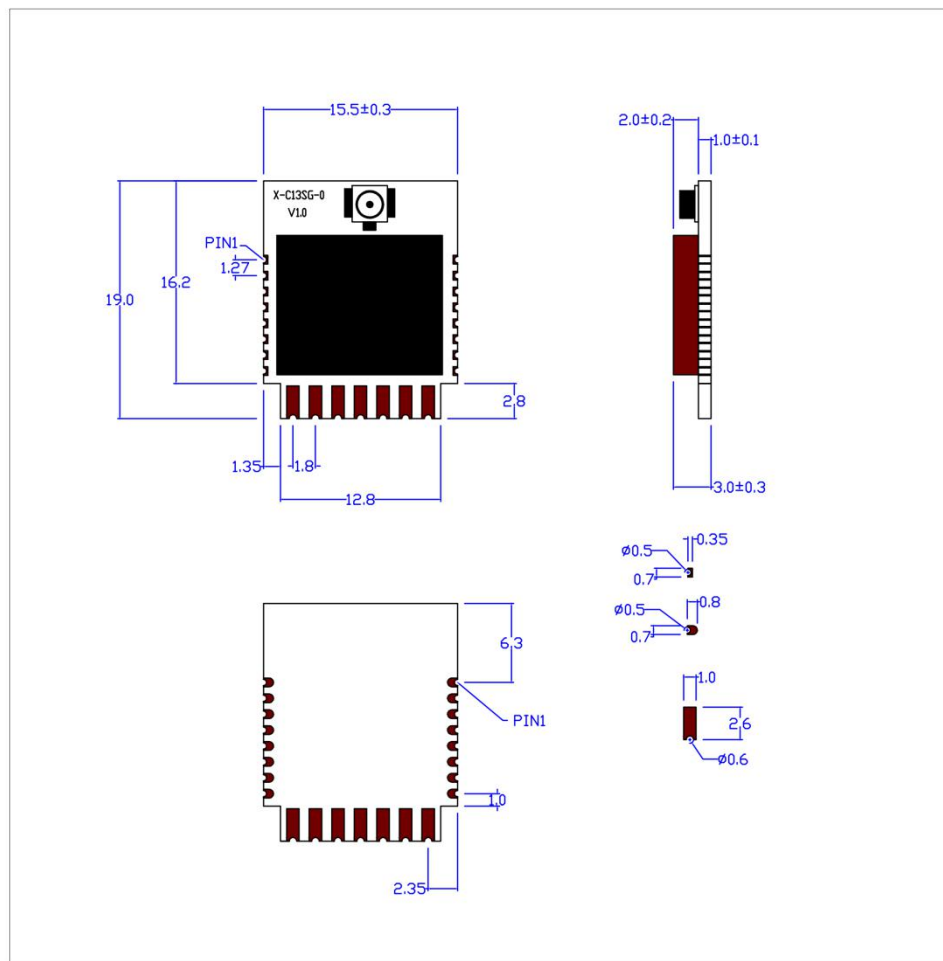

Figure 3. X-C13SG-0 Physical Dimensions
- Average (AP): 70mA
- Size: Figure 3
| FIGURE 3. X-C13SG-0 PHYSICAL DIMENSIONS.....            | 10 |
- X-C13SG-0 Physical Dimensions (Unit: mm),please refer to Figure 3: